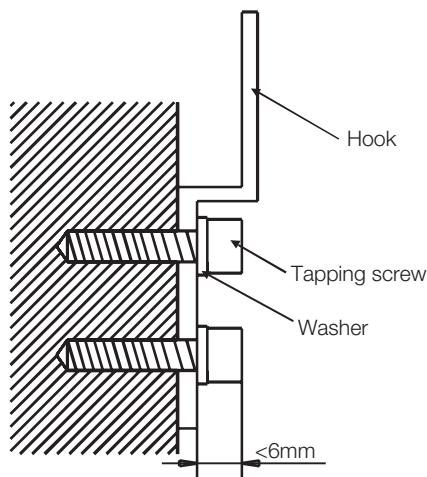

Fig.4-8
1. Fix the hook with tapping screw onto the wall. (Refer to Fig. 4-8)